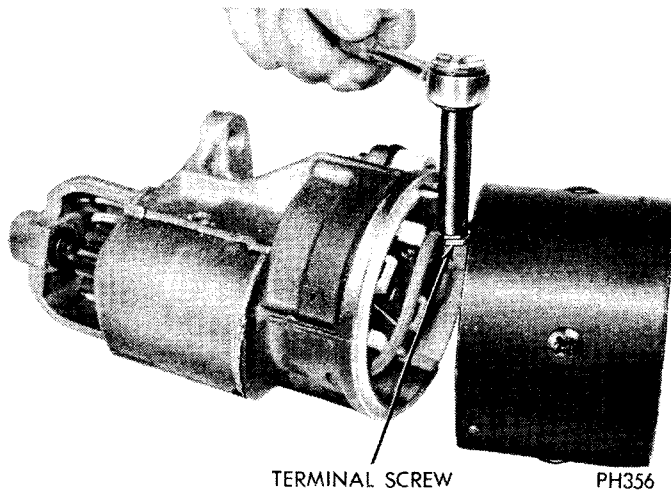

Fig. 4—Removing Terminal Screw
(3) Carefully pull field frame assembly from gear housing far enough to expose terminal screw.
(4) Remove terminal screw. It may be necessary to support terminal by placing finger behind it, (Fig. 4).
(5) Remove field frame assembly.